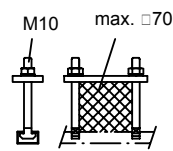

Figure 7
- Vacuum, angular corresponding to Figure 1: With our standard-design we offer the solution shown in fig. 7; the 4 clamping bolts with the 2 clamps are inserted into the C-rail of the vacuum (location selected on one of the two sides); they are suitable to be clamped to a AMS carrier-girder for example; other types of mounting by request
- a) Vacuum, angular corresponding to fig. 1: is equipped with C-profiles for individual mounting / support, fitting for bolts M10 (Figure 7).